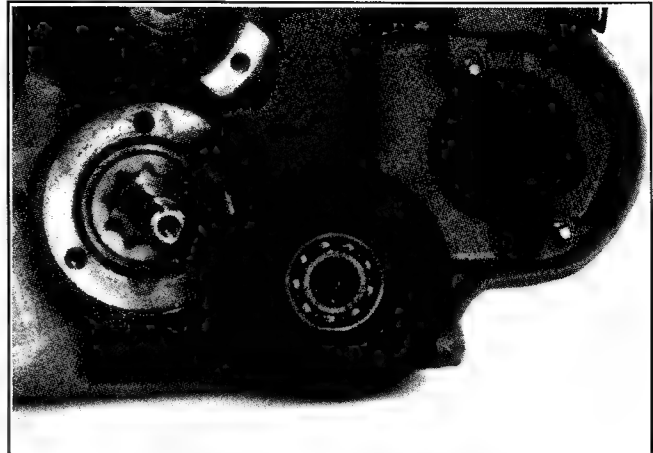

Figure 11-10. Installing O-Ring Inside Crankcase.
1. Install a new O-Ring inside the crankcase. See Figure 11-10.